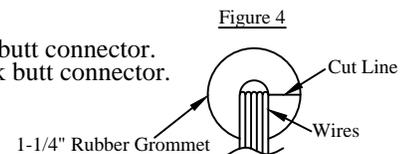

Figure 4
- Step 6. Install 1-1/2" split plastic bushings or 1-1/4" rubber grommet in access holes (Figure 4).